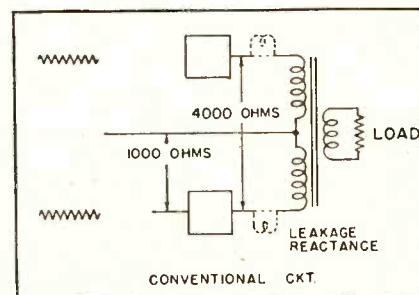

Fig. 2—First step in development of unity-coupled amplifier showing new coupling arrangement.
In a limited space it is difficult to functionally analyze this somewhat radical circuit. Therefore basic facts and schematics are offered. Fig. 2 illustrates the first step in development of the unity coupled amplifier. The conventional dual primary winding is shown with the lower half in dotted lines. The actual position of the dotted-line half winding is shown in its new relationship (2) by solid lines. The two half-primaries are wound together in bifilar form as one winding. With this arrangement there